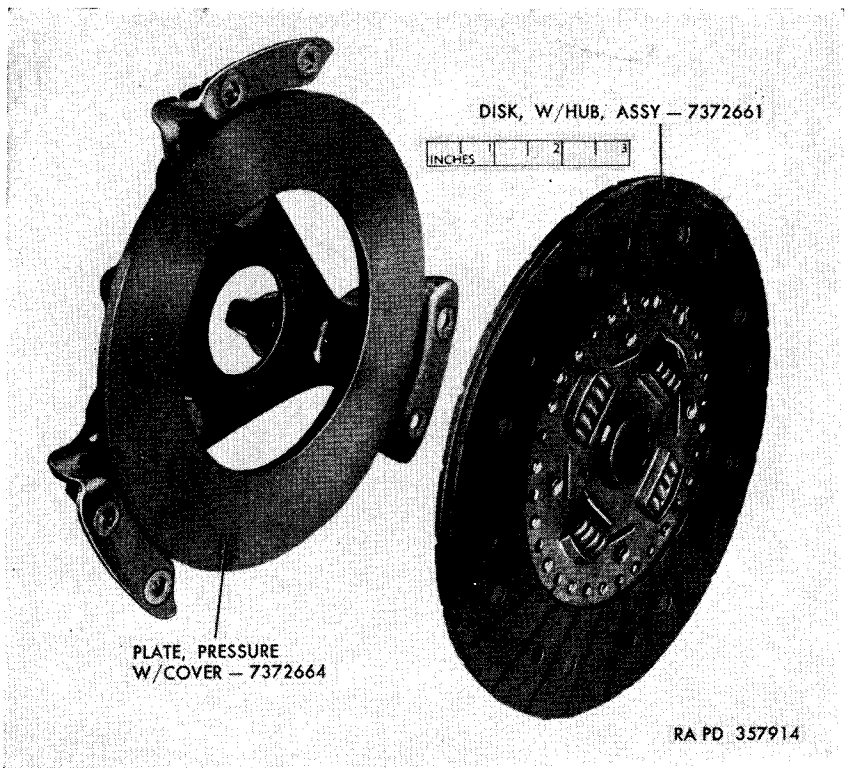
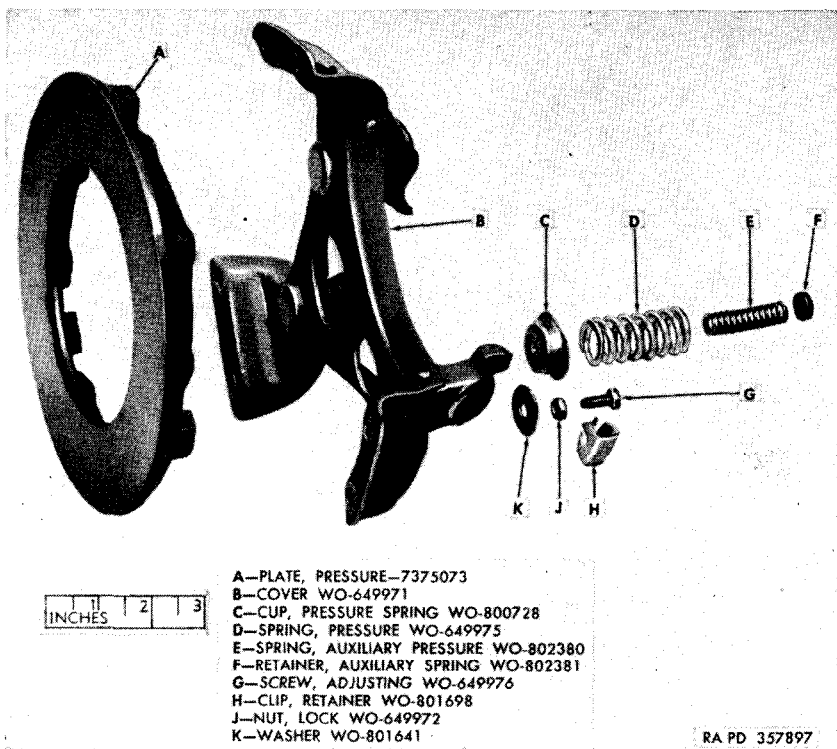

Figure 81. Clutch disk and pressure plate.
Figure 82. Pressure plate disassembled.
The clutch is of the single plate automotive type, composed of two major units (fig. 81); the pressure plate assembly and the driven plate or disk. The pressure plate is adjusted at the factory, and requires no other adjustments, except where it is necessary to install new clutch pressure springs, clutch springs, clutch fingers, or pressure plate (fig. 82).
Place the pressure plate and cover assembly in a press. Place a wood block 2½ inches square on top of the clutch levers (fig. 83). Depress the clutch levers, and remove the three clutch adjusting screws, lock nuts, and washers (fig. 82). Release the pressure on the levers slowly to prevent the pressure springs from flying out from under the lever.
130. Removal of Clutch Pressure Spring Cups and Springs (fig. 82)
- (1) *Clutch pressure plate* (fig. 82). A ridged, scored, radial cracked, or burned pressure plate must be replaced.
- (2) *Pressure plate cover* (fig. 82). A distorted pressure plate cover or one with worn clutch levers must be replaced.
- (3) *Clutch pressure springs* (fig. 82). Place each clutch pressure spring (large) in a tension scale, and depress it to $1 \frac{9}{16}$ inches (fig. 84). If the spring tension is less than 180 pounds,
Install the clutch pressure spring cups and pressure springs in the cover (fig. 82), making sure the indentation of each cup is toward the center of the cover.